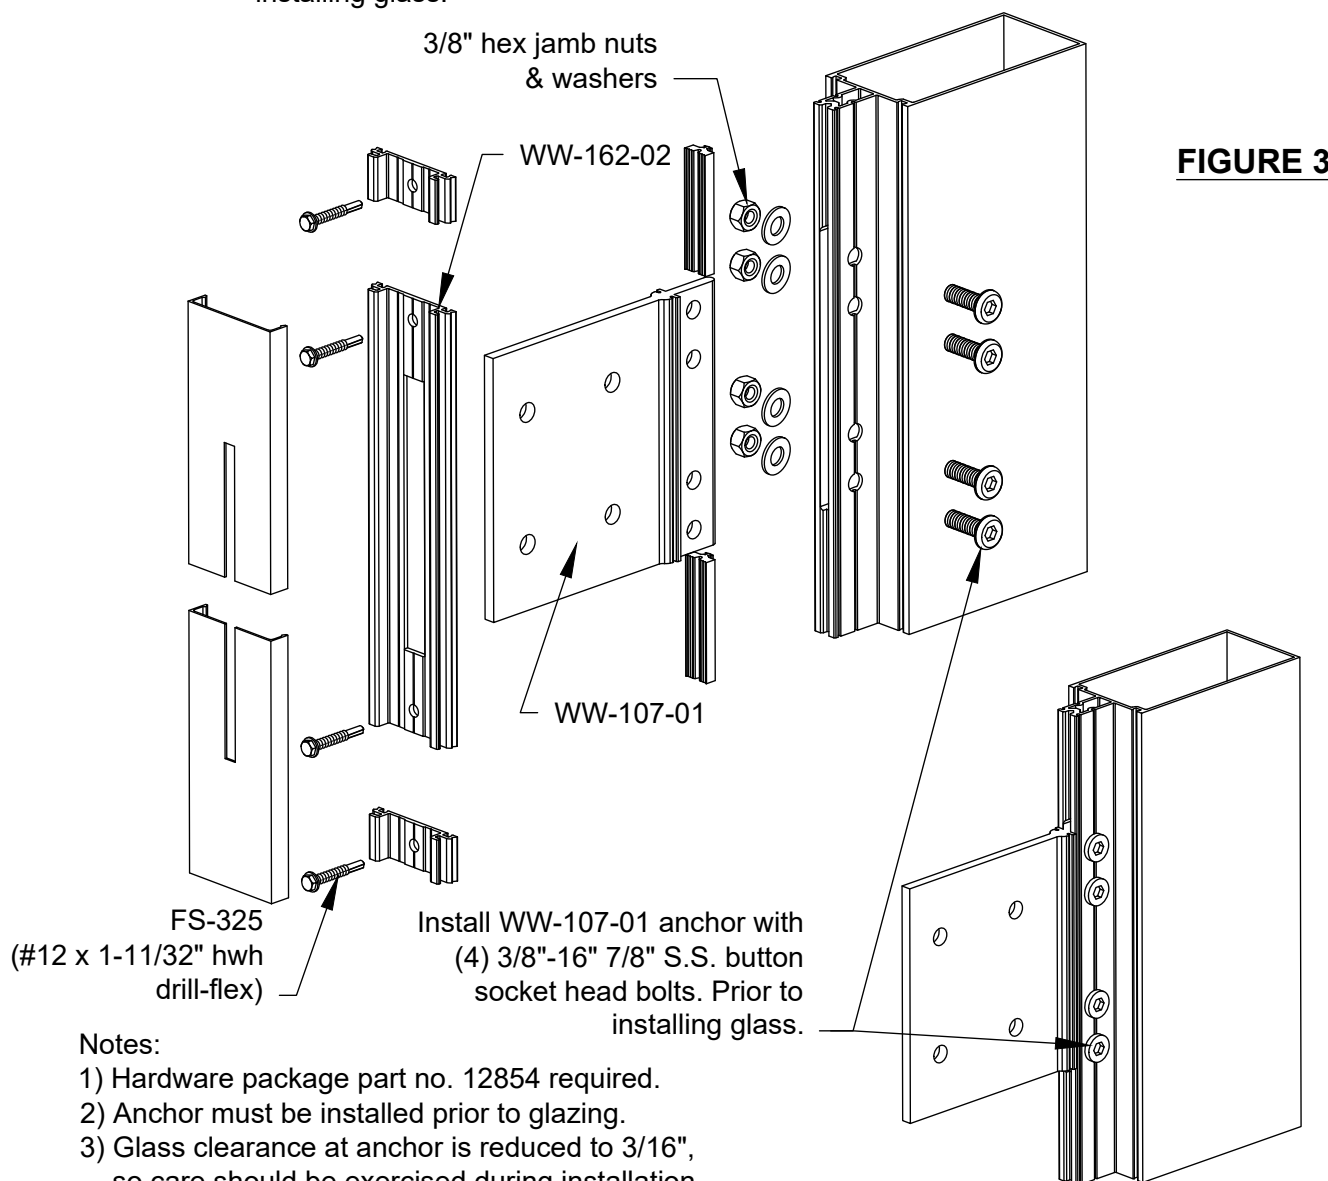

FIGURE 3
- 3) Hardware required for attachment of standard anchor (WW-107-01) will be contained in the hardware package, (part. no. 12854). This package contains (1) one WW-162-02 cover plate, (4) four 3/8"-16 x 7/8" stainless steel button socket head bolts, nuts and washers and (4) four 3/8"-16 x 1-1/4" stainless steel hex head bolts, nuts and washers. (Size and quantity of bolts may vary based on project requirements, consult engineer for specific job applications).
- 4) Attach anchor to mullion by first inserting anchor into cutout in face of mullion tongue. Attach anchor using the 3/8"-16 x 7/8" S.S. button socket head bolts, washers and securing using the 3/8"-16 S.S. jamb nuts. Repeat for each of the 4 bolts. See **FIGURE 3** (Size and quantity of bolts may vary based on project requirements, consult engineer for specific job applications).
- 5) Once system is glazed. Install section of GP-103 gasket onto WW-162-02 cover plate and install plate over anchor attaching to mullion using (2) two FS-325 (#12-14 x 1-1/2" HWH Drill-Flex fasteners).